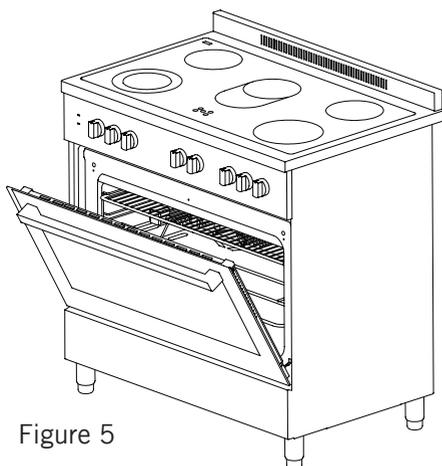

Figure 5
3. Place the safety panel under control panel by opening the oven front cover glass. (Figure 5)